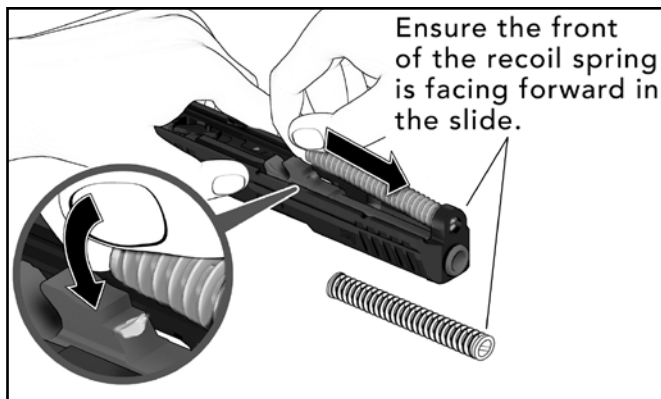

Figure 26 — Reassembling the recoil spring onto the barrel and side
4. Push the recoil spring forward into position, compressing the recoil spring, then pivot the back of the recoil spring guide rod on to the stepped mounting surface located on the front of the barrel locking lug (see Figure 26). Ensure the front of the recoil spring is facing forward in the slide.